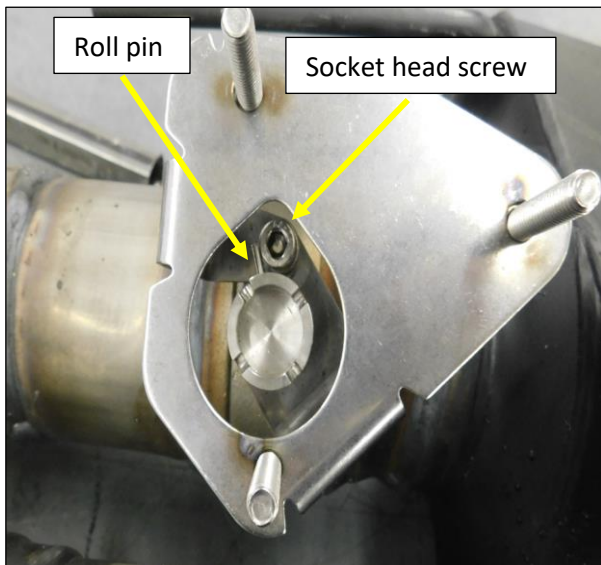
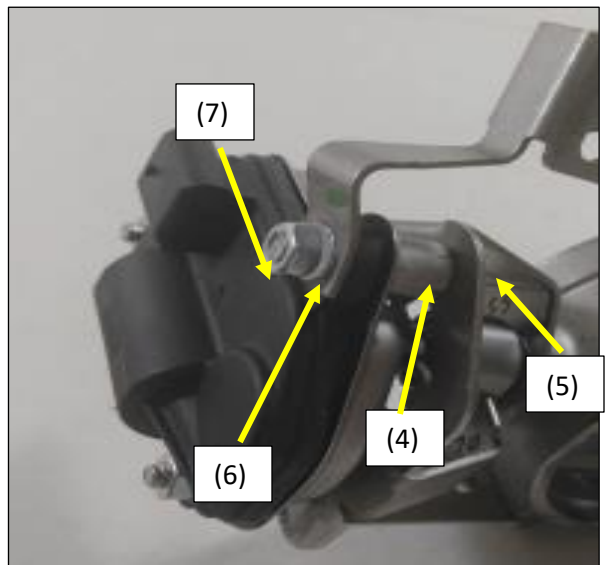

Figure 6
Figure 7
3. Transfer the valve assemblies to the Flowmaster exhaust using the supplied hardware (**Fig. 7**).
- Rotate the Flowmaster exhaust valve so that the valve blade is in the fully open position and the roll pin on the valve shaft is stopped on the socket head screw (**Fig. 6**).
- Install the provided $\frac{1}{4}$ x 1.25 bolts (5) with a $\frac{1}{2}$ " spacer (4) between the valve mounting plate and the actuator.
- Install a lock washer (6) and nut (7). See **Figure 7** for correct assembly of hardware.**IMPORTANT: The valve must remain in the open position when the actuator is installed.**